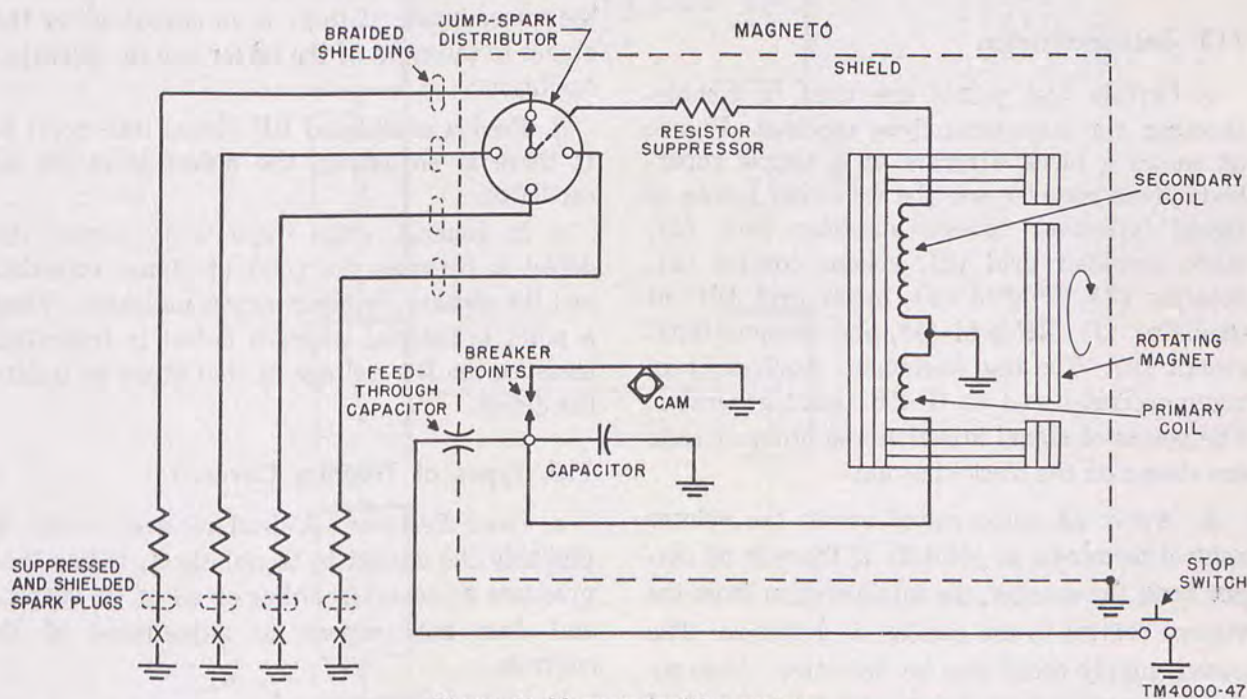

Figure 62. Magneto ignition system.
(2) *Magneto system.* If the vehicle is equipped with a magneto system, run the engine at a fast idle speed and switch off the magneto while listening for any change in the noise level in the receiver. If turning off the magneto reduces the noise, the interference is coming from the components of the ignition system in which the magneto is operating. A typical magneto system is shown in figure 62.